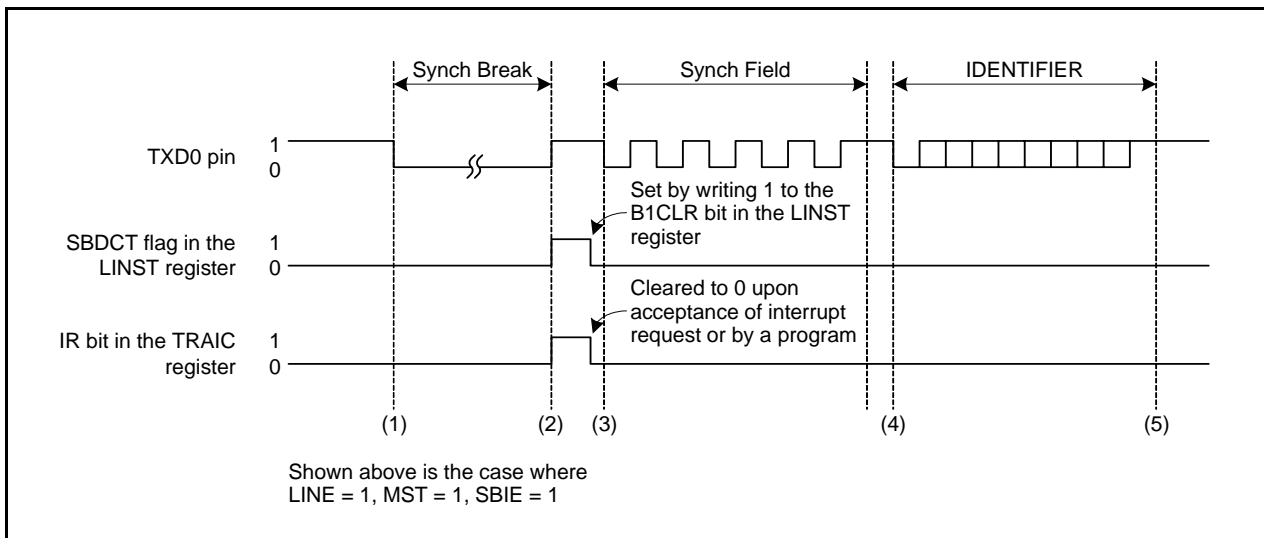
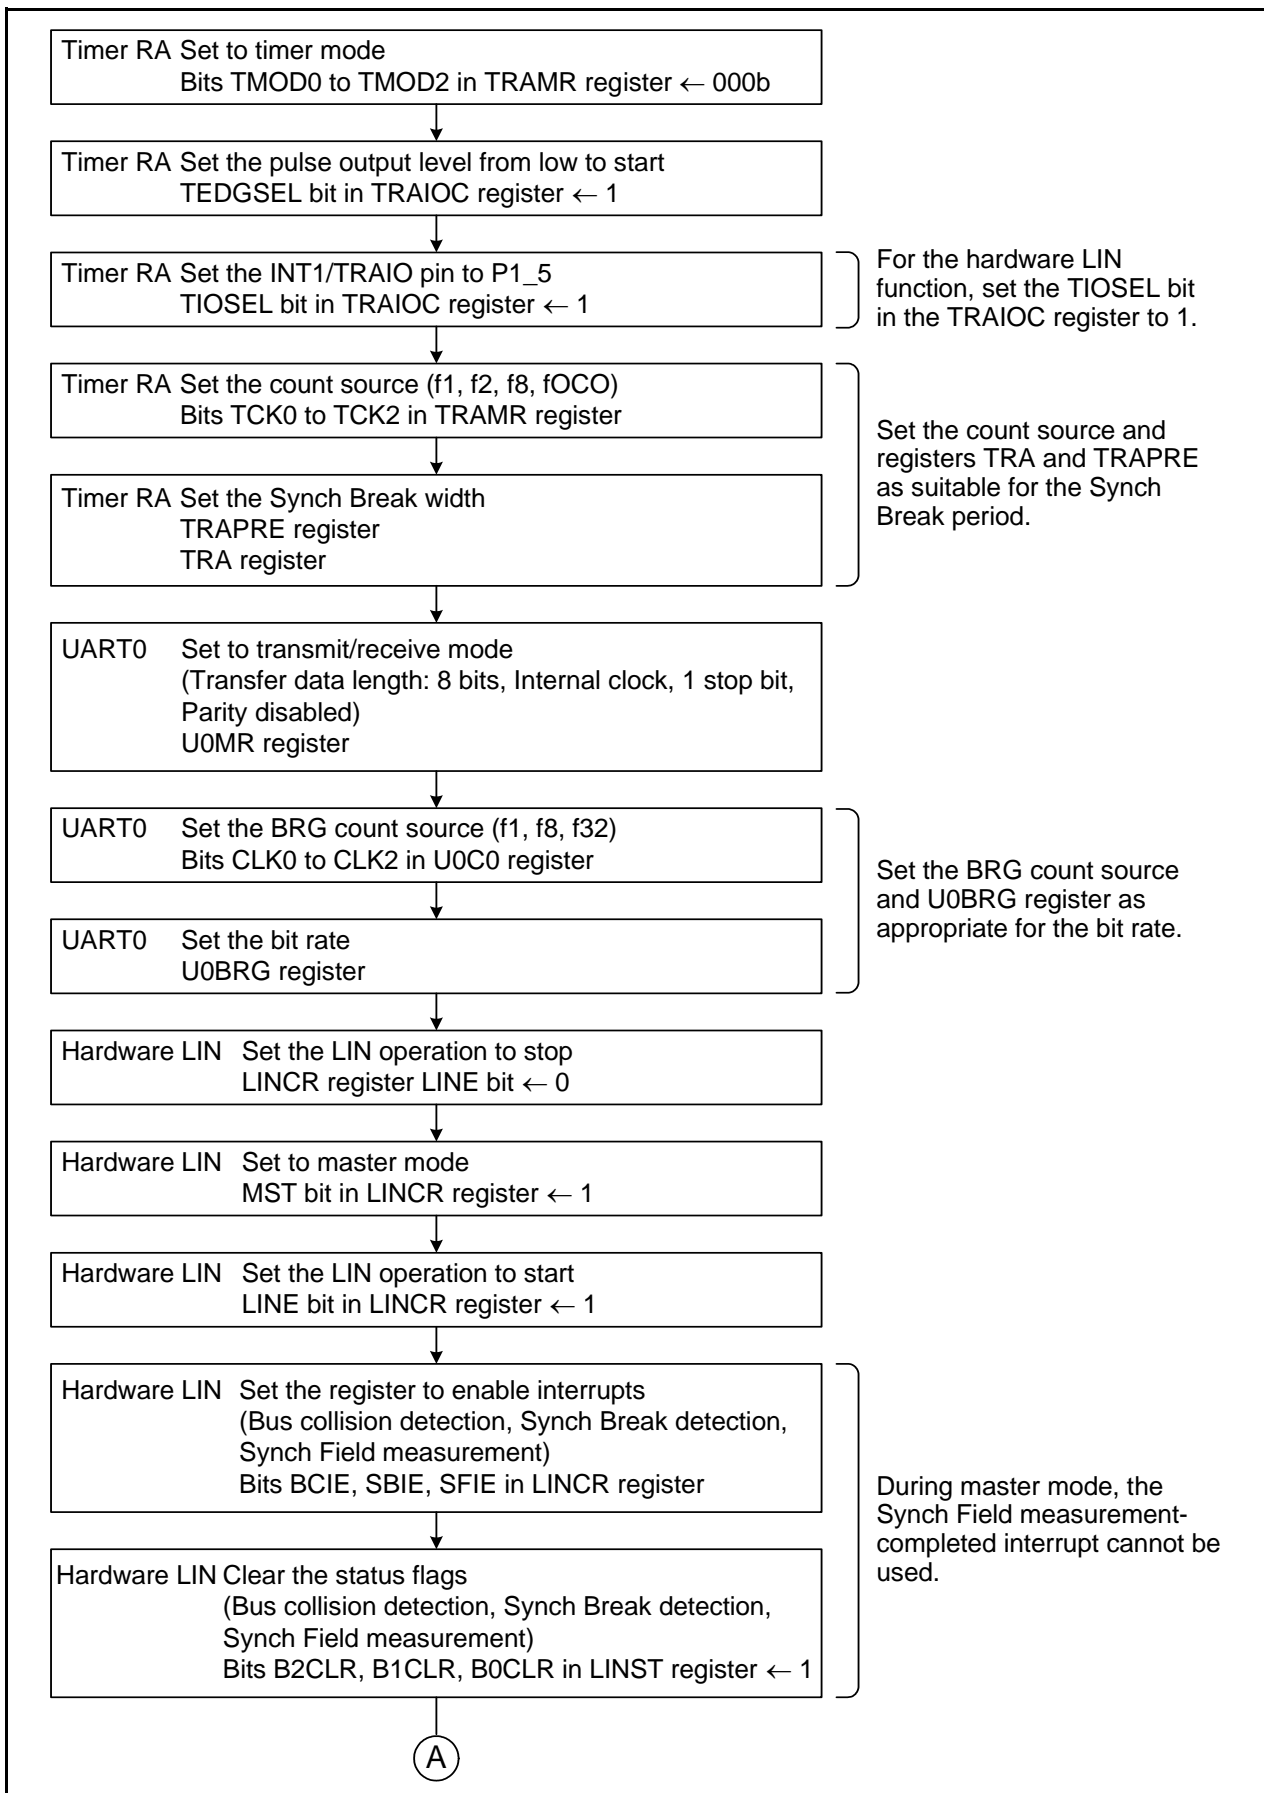
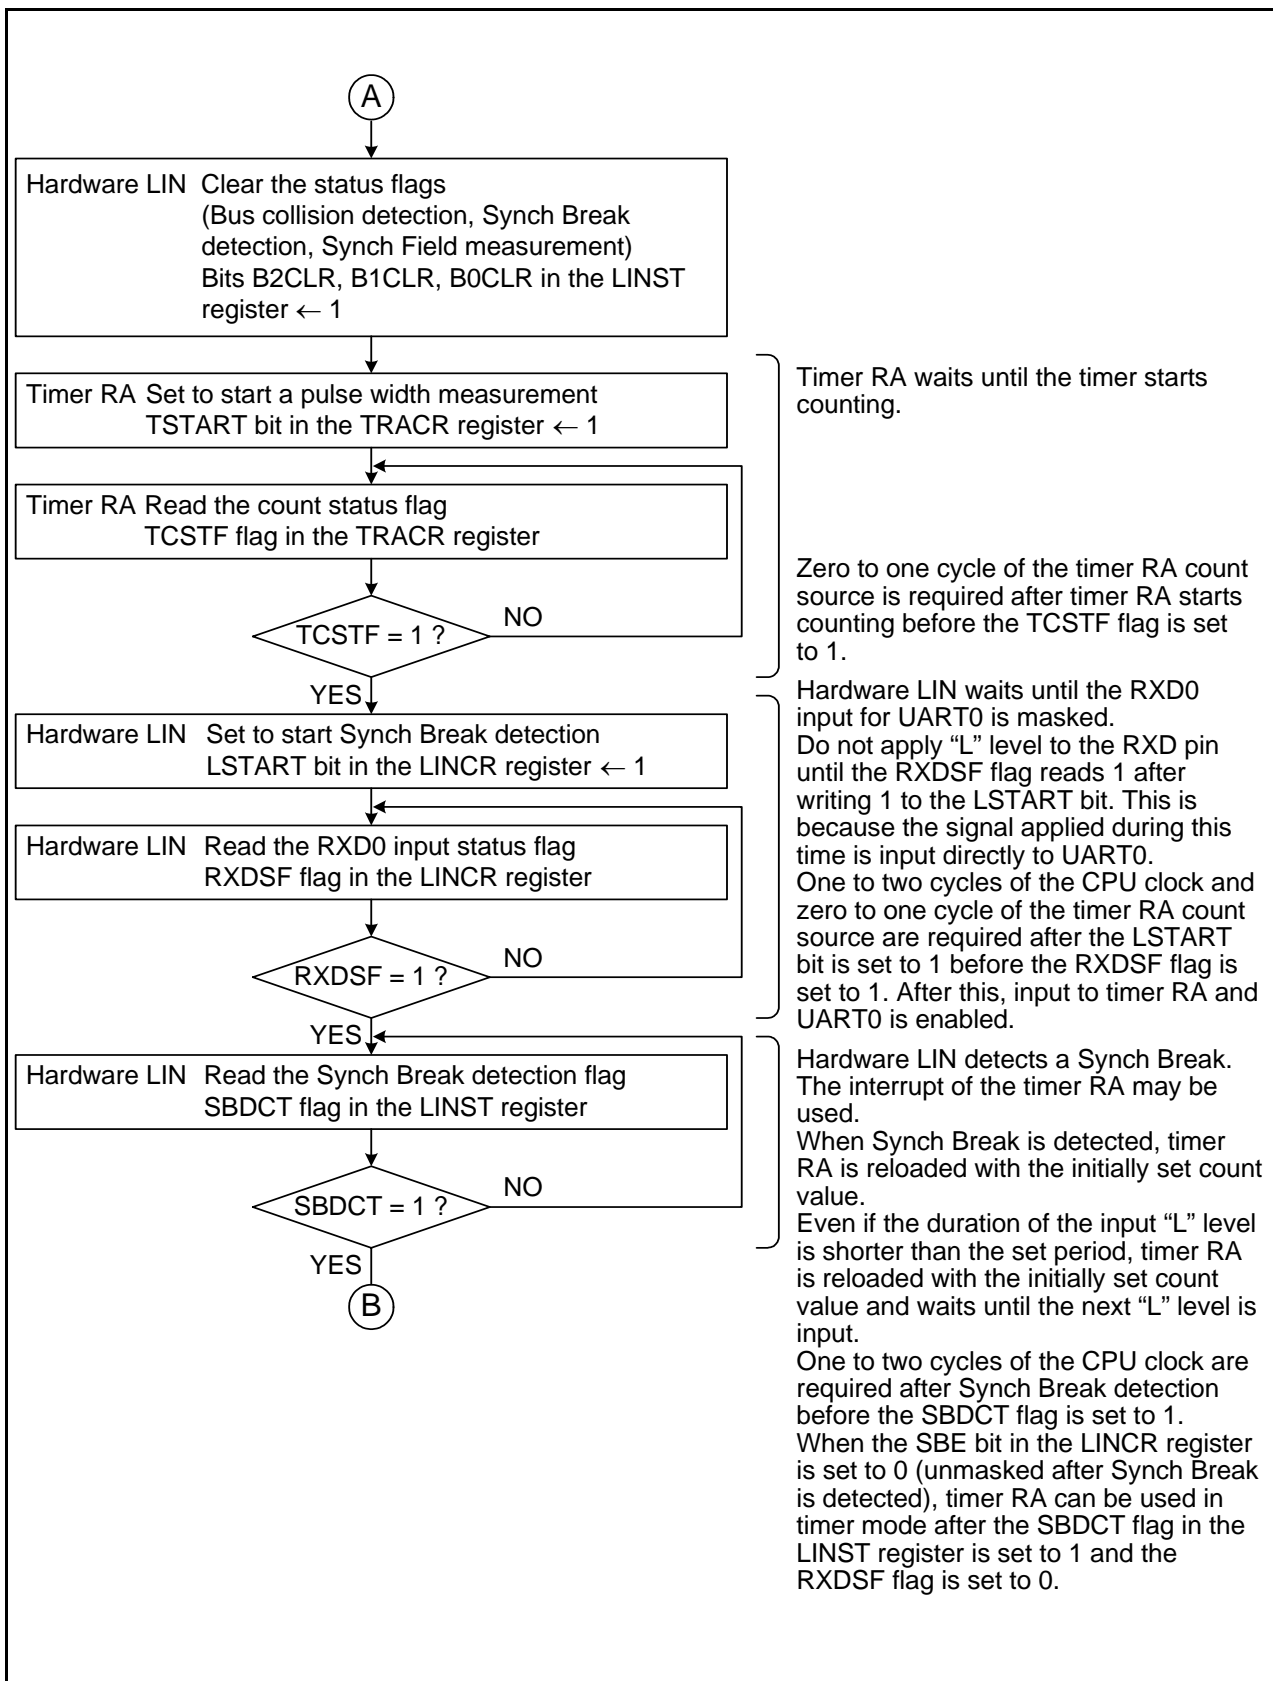

Figure 17.4 Typical Operation when Sending a Header Field
Figure 17.5 Example of Header Field Transmission Flowchart (1)
Figure 17.9 Example of Header Field Reception Flowchart (2)
3. Inputs to timer RA and UART0 are prohibited immediately after this bit is set to 1. (Refer to **Figure 17.5 Example of Header Field Transmission Flow chart (1)** and **Figure 17.9 Example of Header Field Reception Flow chart (2).**)
Figure 17.4 shows typical operation of the hardware LIN when transmitting a header field in master mode. Figures 17.5 and 17.6 show an Example of Header Field Transmission Flowchart.